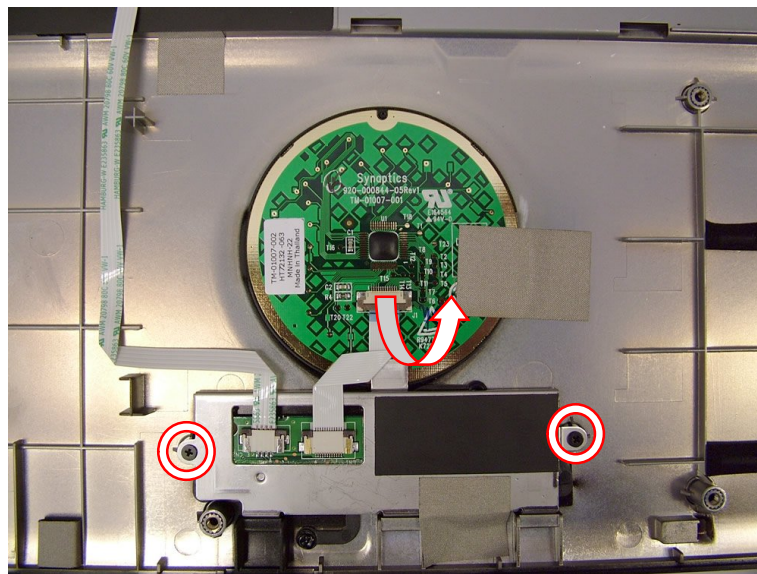

Fig. 28 Removing touchpad button board and cable.
2. Remove the 2 screws securing the touchpad button board and lift out the board including the cable (see Fig. 28).